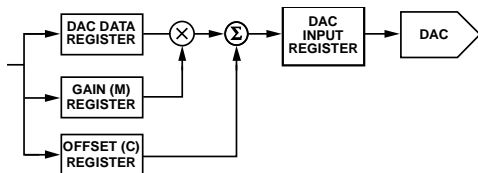

Figure 76. Digital Offset and Gain Control
Each DAC channel has a gain (M) register and an offset (C) register, which allow trimming out of the gain and offset errors of the entire signal chain. Data from the DAC data register is operated on by a digital multiplier and adder controlled by the contents of the gain and offset registers; the calibrated DAC data is then stored in the DAC input register (see Figure 76).
Although Figure 76 indicates a multiplier and adder for each channel, the device has only one multiplier and one adder, which are shared by all four channels. This design has implications for the update speed when several channels are updated at once (see Table 3).